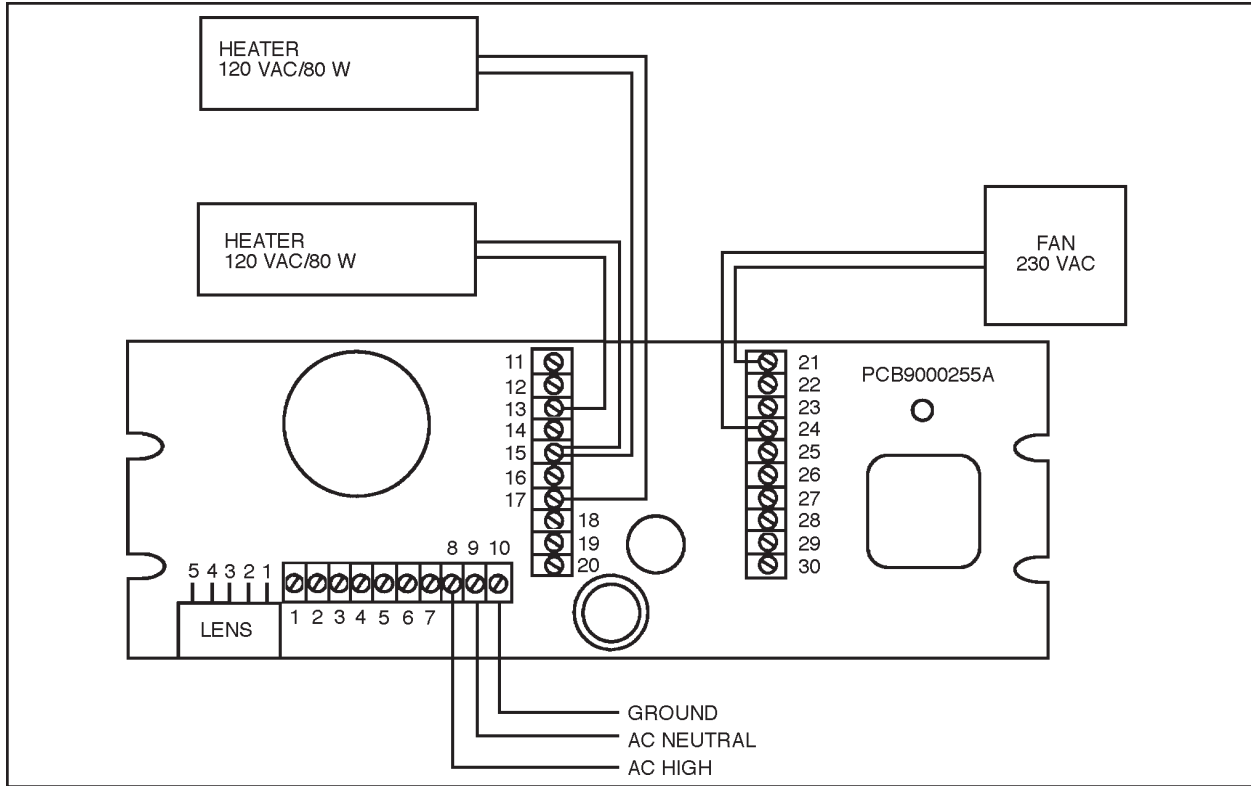

Figure 4. Heater/Blower Wiring Diagram (230 VAC)
These models are supplied with factory-installed blower/heater and service light. For installation, supply 230 VAC power for the blower/heater and wire according to the diagram in Figure 4.
**Wiring Pin Assignments Figure 4**